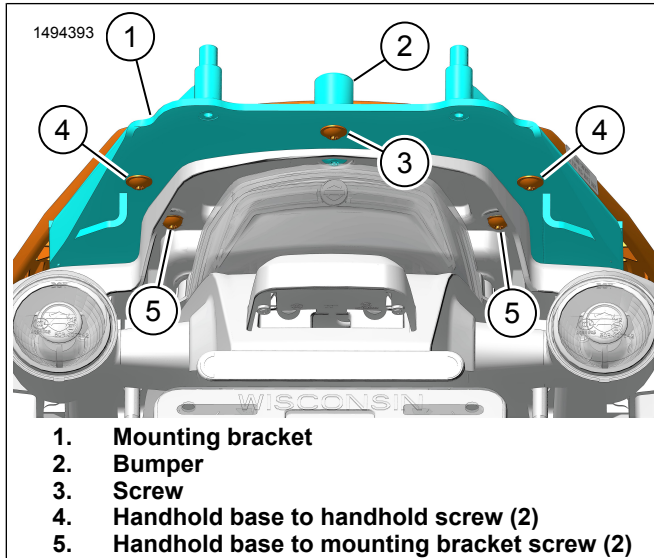
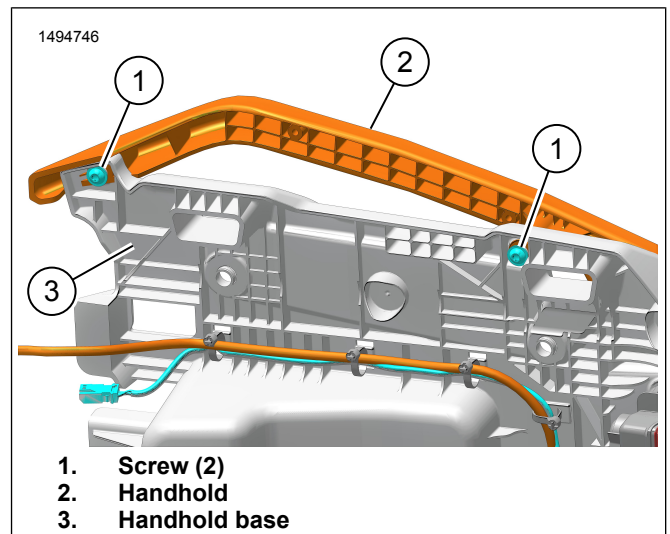

Figure 9. Rear Mounting Screws
Figure 10. Handhold
b. See Figure 9. Install handhold base to mounting bracket screws (5). Tighten.
8. See Figure 10. Install handhold (2).
a. Loosely install screws (1) on both sides.
b. See Figure 9. Install handhold base to handhold screws (4).